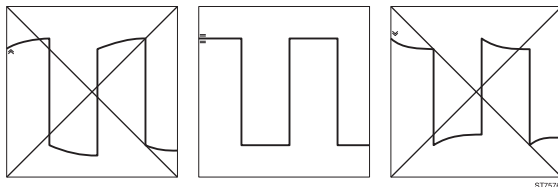

Figure 8-3. Adjusting the Probe
8. Adjust the trimmer screw in the probe housing of INPUT A to give an optimum square wave within the equal markers on the display (see Figure 8-3).